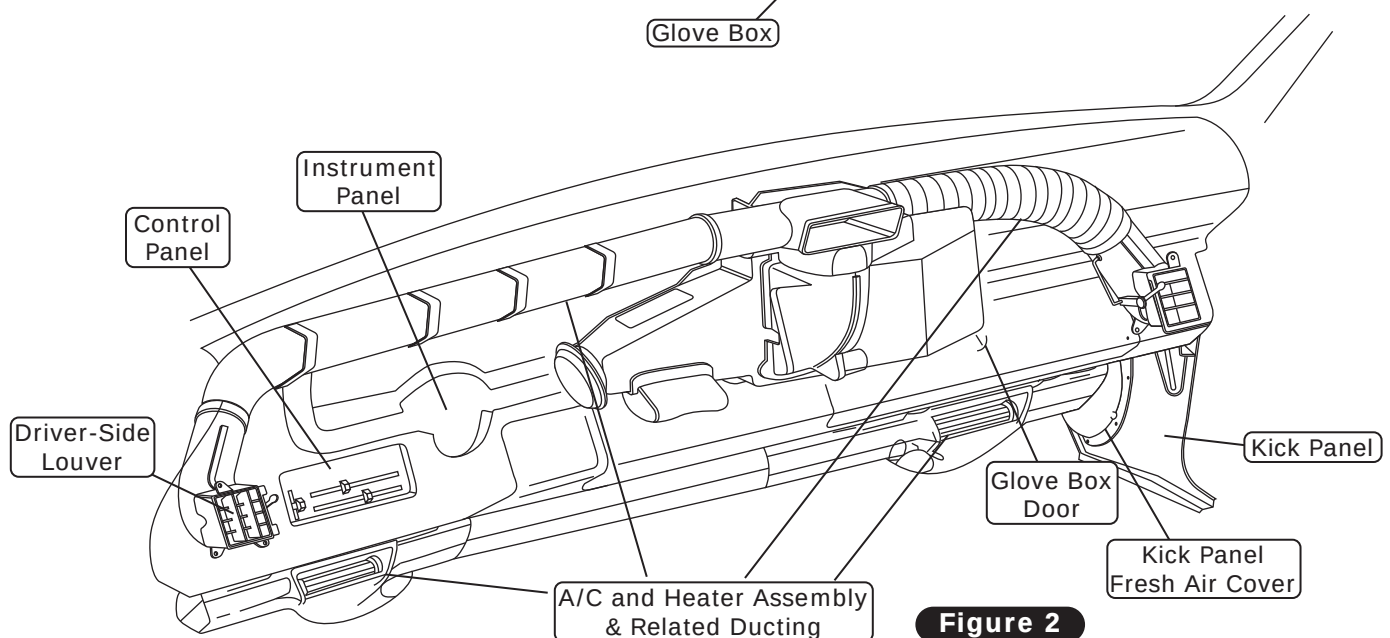

Figure 2
1. Remove the glove box door (See Figure 2, below).
3. Remove the A/C, heater/evaporator assembly and all related ducting (discard, but retain screws) (See Figure 2, below).
4. Remove the A/C and heat outlets (retain). Instrument panel must be removed to get to the left outlet and control panel (See Figure 2, below).
5. Remove the control panel assembly (discard control panel) (See Figure 2, below).
6. Remove the passenger-side kick panel fresh air cover (discard) and kick panel (retain). Remove the cable from the panel (discard) (See Figure 2, below).
7. Reinstall the vehicle's OEM kick panel trim, then make the necessary trim at the kick panel fresh air cover (See Figure 2, below). **NOTE: Retain the kick panel fresh air cover until after the evaporator module is installed.**